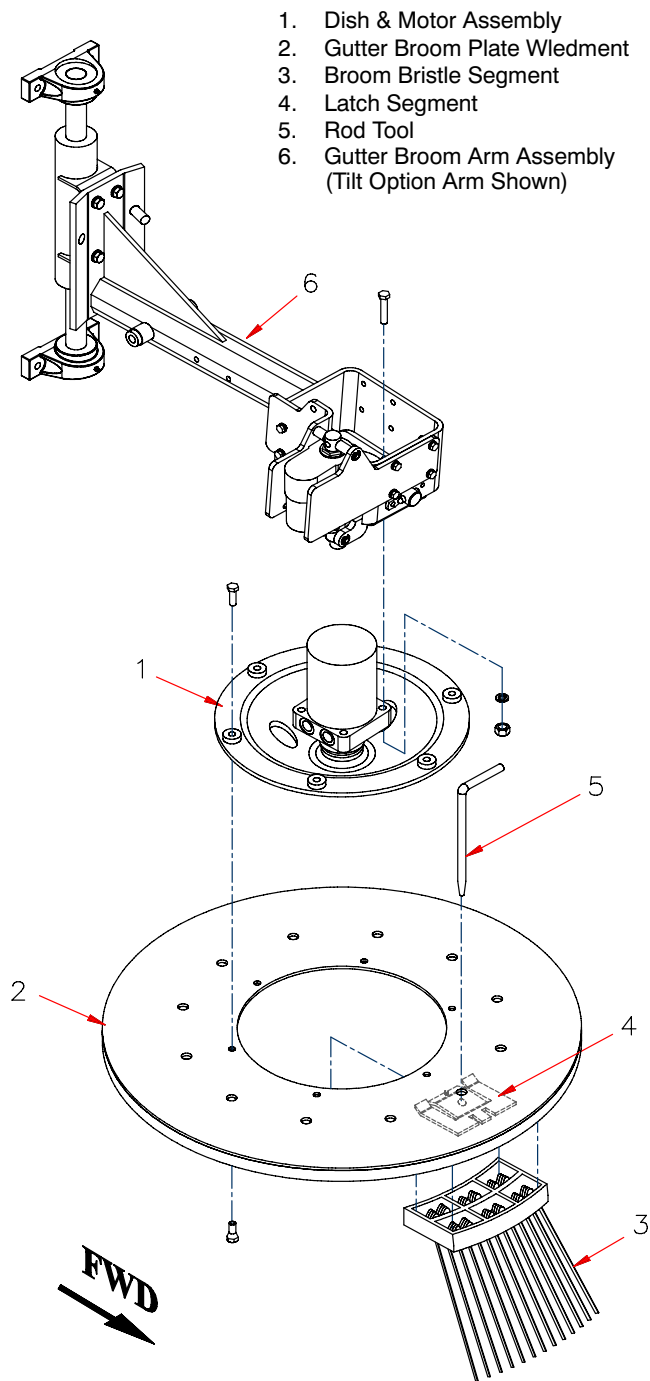

Fig: 5.25 A Gutter Broom Plate/Brush Removal and Installation are basically the same on both sides.
2. Place the shifter in the **Park (P)** position, setting the parking brake.
6. Using the rod tool (Fig: 5.25 A; 5), unlock the bristle segment (3) from the gutter broom plate.